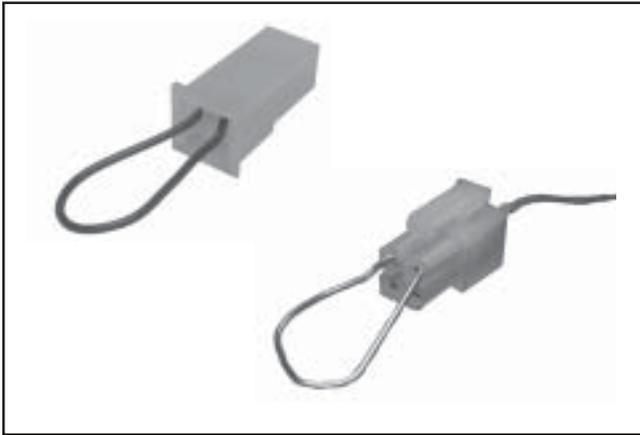

Figure 5B-6. Service Connector Plug.
3. Locate the service connector plug in the wiring harness. To initiate the TPS auto-learn function, connect a jumper wire from the TPS initialization pin #24 (violet wire) to the battery voltage pin (red wire), or use a jumper connector plug with the blue jumper wire. See Figure 5B-6. If using the PC-based diagnostic tool and software (see Section 2), go to “Special Tests” and follow the prompts to complete.